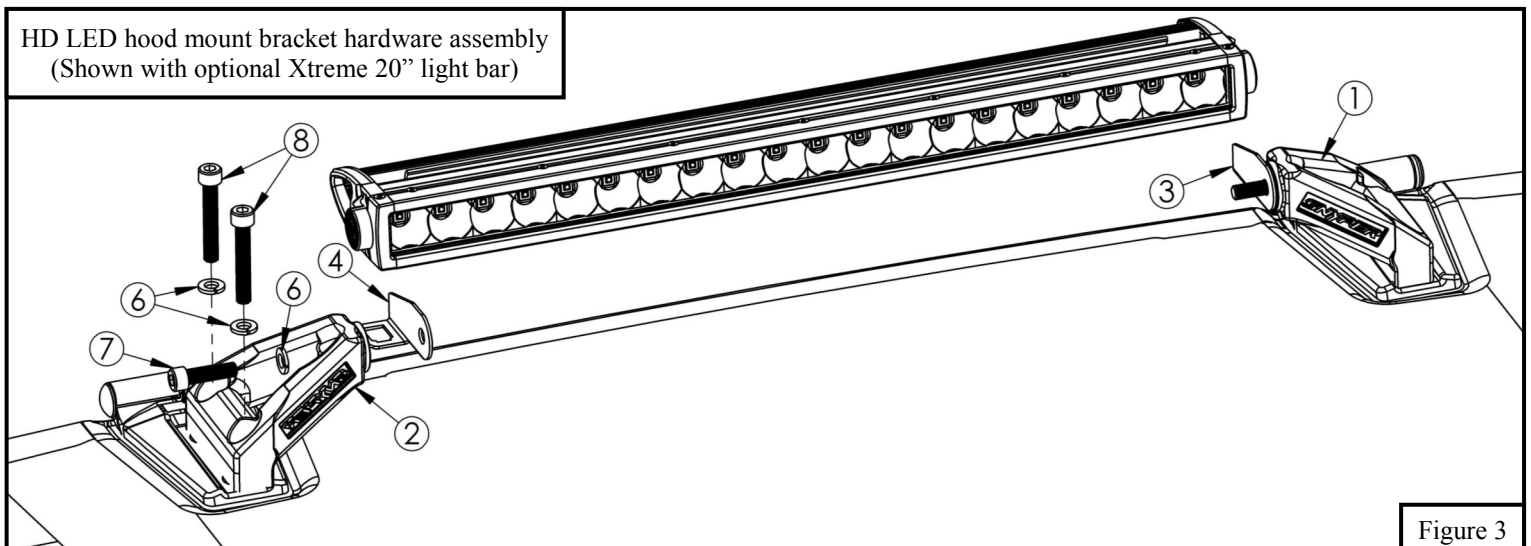

Figure 3
4. Position the mounting bracket on the hood hinge and align the two mounting holes with those of the hinge. Loosely install bracket using (2) long M8 socket head cap screw and (2) M8 split lock washers. See Figure 3.